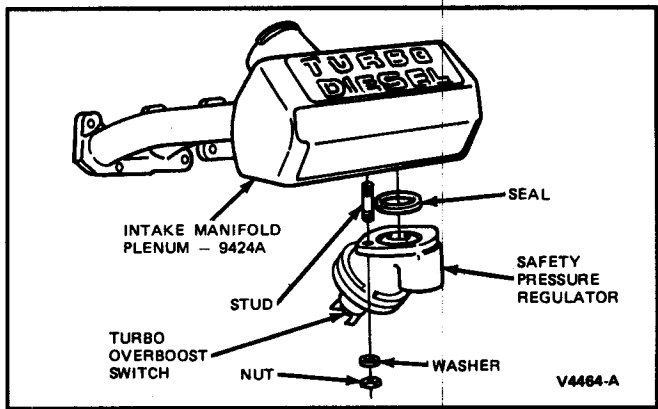

FIG. 3 Turbo Overboost Switch—Removal and Installation
1. Position seal and pressure regulator to intake manifold plenum and install with two nuts and two washers (Fig. 3). Tighten nuts to 49-62 N·m (11-14 lb-ft).